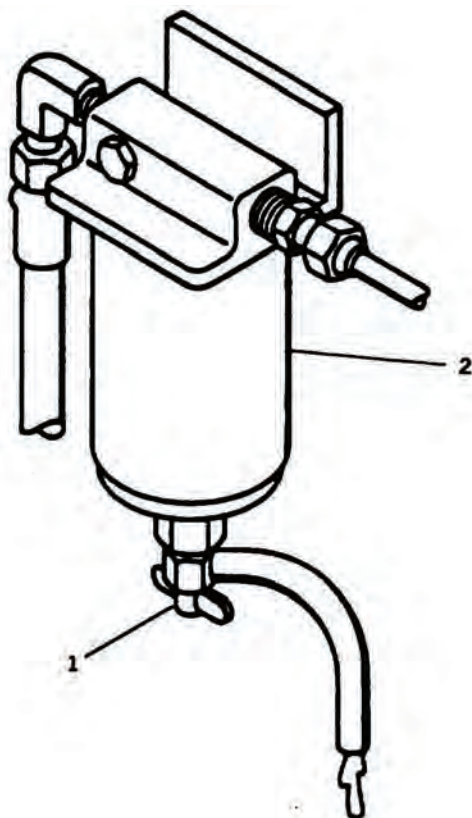

Figure 2. Draining Fuel Filter/Water Separator.
3. Inspect fuel filter/water separator assembly. Refer to Figure 2 for proper mounting, cracks, dents, leaks, loose fuel lines and other damage.
4. Open fuel drain cock (Figure 2, Item 1) on fuel filter/water separator housing (2) and drain contaminants into a suitable container.
5. Close drain cock (1).